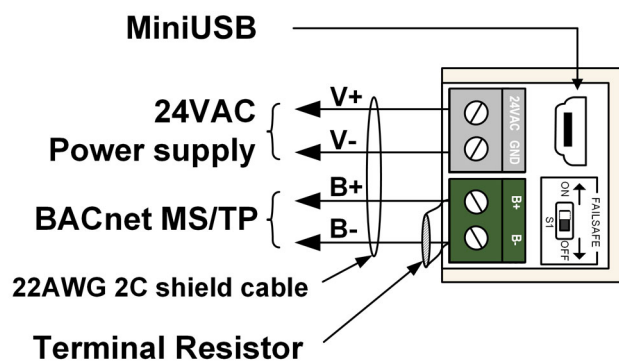

Fig. 2 NVT70P Wiring
- Setup, upload firmware, and upload graphic display by using the BACsoft software and connect PC to NVT70P with USB2.0 to Mini USB cable (see Fig. 2).